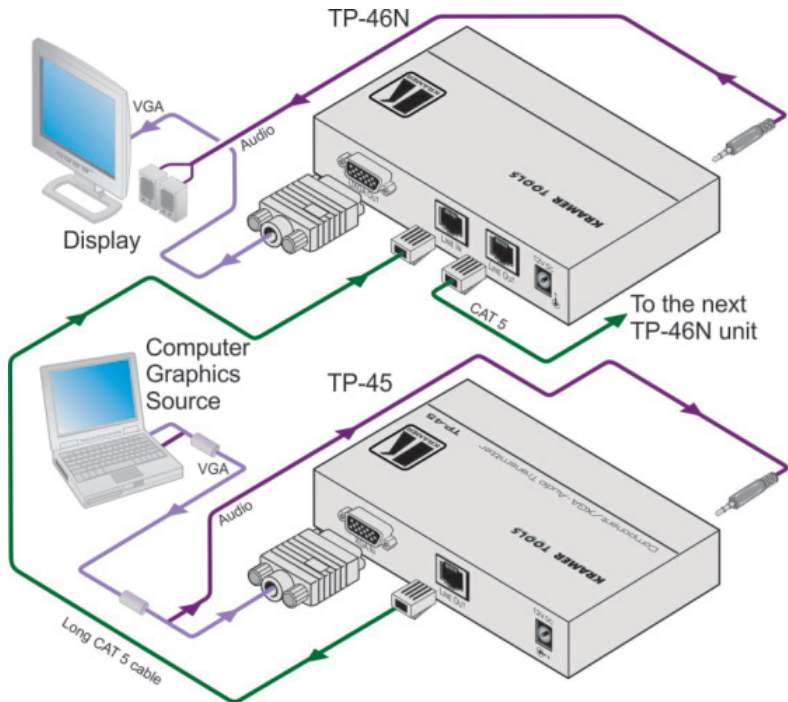

Figure 2: Distribution System, UXGA Mode
To configure a **TP-46N** component/UXGA/audio distribution system in the UXGA mode (using up to 300ft (100m) of UTP cabling), as shown in Figure 2, do the following:
6. Connect the 12V DC power adapter to the power socket and connect the adapter to the mains electricity on both the **TP-45** and the **TP-46N** (not shown in Figure 2).